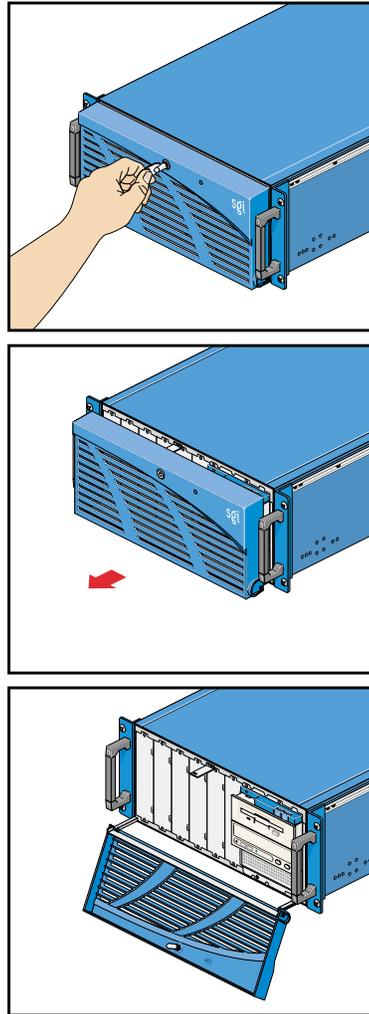

Figure 1 Opening a Node Bezel
3. Unlock the node bezel, pull the bezel out and away from the node, and swing the bezel down, as shown in Figure 1.